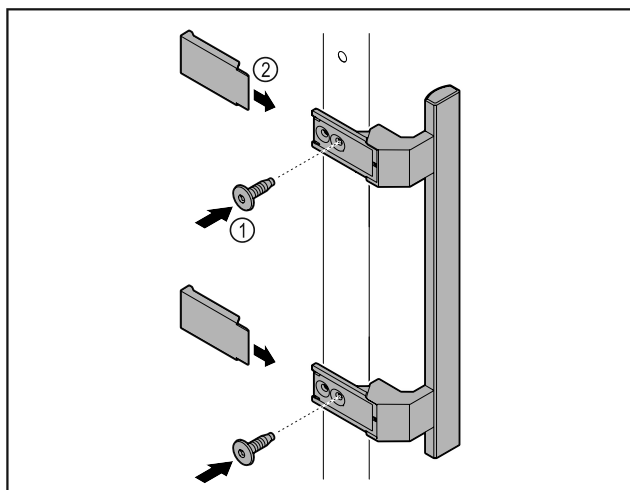

Fig. 3
- ▶ Attach handle from accessory kit to the door using supplied screws Fig. 3 (1).
- ▶ Put on cover Fig. 3 (2).